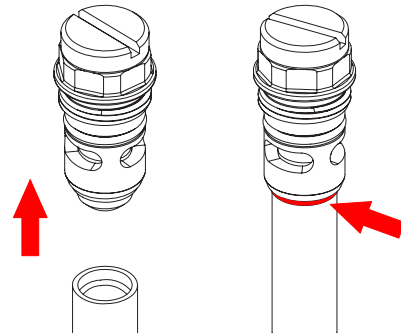

Figure 16 Removing the Tube from the Access Plugs
3. See Figure 16. Pull the old fluidizing tube off the access plug, then seat the new fluidizing tube against the red O-ring.